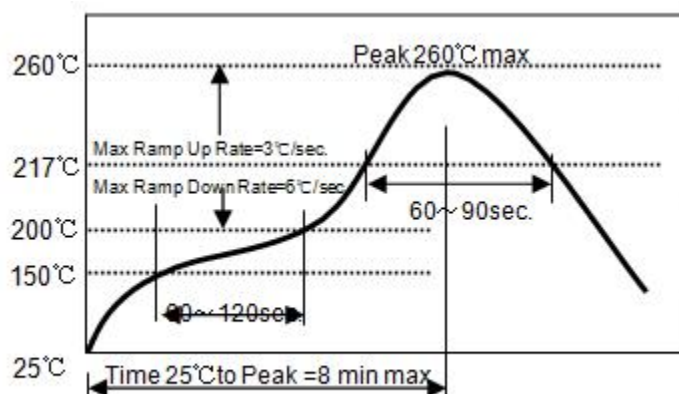

Fig. 1-1
- △ Please refer to **Fig. 1-1**.